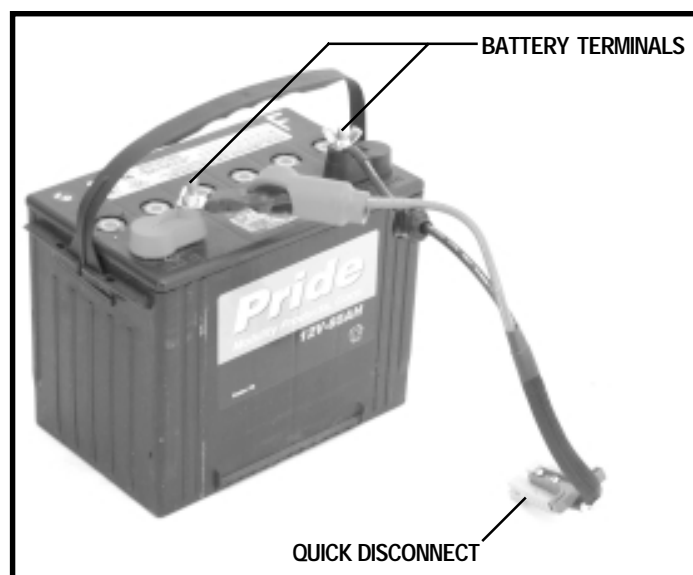

Figure 28. Battery and Harness
5. Locate the battery quick disconnects on the frame and disconnect both of them. See figure 28.
8. Reinstall the wiring harnesses on each battery. Make sure that you connect the red wire to the positive (+) battery terminal and the black wire to the negative (-) battery terminal. See figure 28.